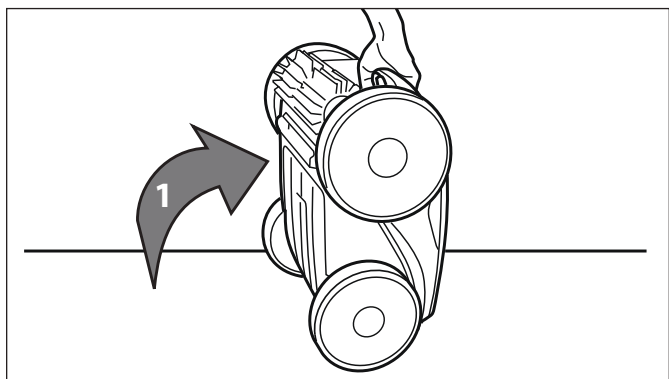

Figure 30. Cleaner in Upright Position
1. Lift the cleaner to a vertical position so that the handle is up. Refer to Figure 30.